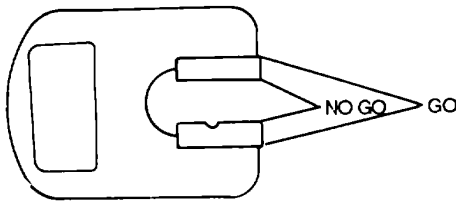

Figure 3-61. Progressive Snap Gauge
(1) *Nonadjustable.* The nonadjustable type is a solid construction, having two gauging members, GO and NO GO, as shown in figure 3-60. The part to be inspected is first tried on the GO side and then the gauge is reversed and the part is tried on the NO GO side. Some solid snap gauges, shown in figure 3-61, have combined gauging members in the same set of jaws as shown above, known as a progressive snap gauge. The outer member gauges the GO dimension, and the inner member the NO GO dimension.